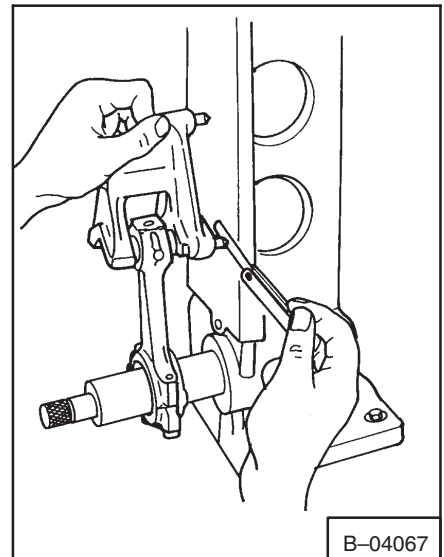

**Fig. 7C-75** Piston Pin And Connecting Rod
9. Measure the clearance with a feeler gauge (Fig. 7C-76).